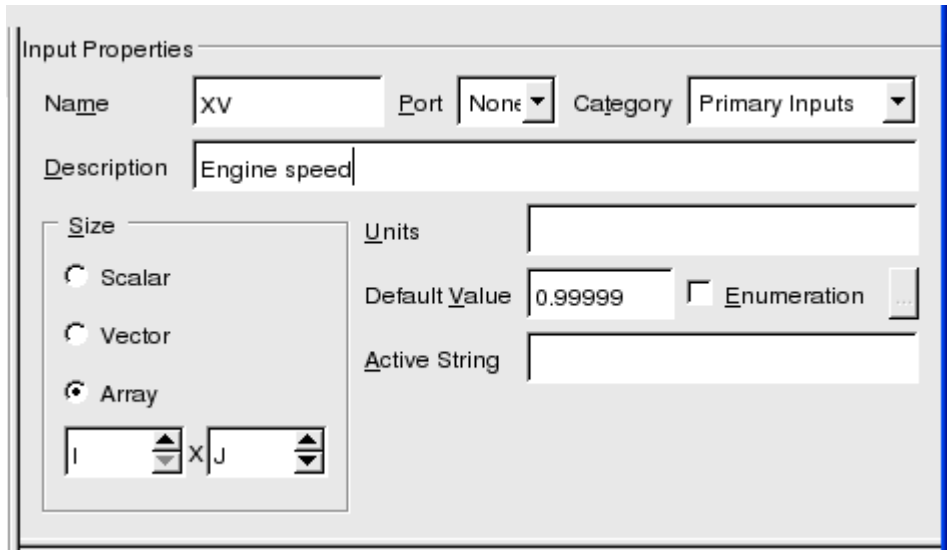

Figure 85 User Code Editor Array Example
1. It is assumed that for this library component, you have already defined dimension parameters I and J using the Configuration button for the main component properties. If you have not done this already, select the Component Properties button at the top left of the Input/Output Definition panel, and select the Configuration button, resulting in a Configuration dialog as shown in Figure 85. In this case, we have assigned dimension parameters I and J, appropriately.
4. Enter other input properties., as appropriate. The resulting Input Properties form should look similar to that shown in Figure 85.